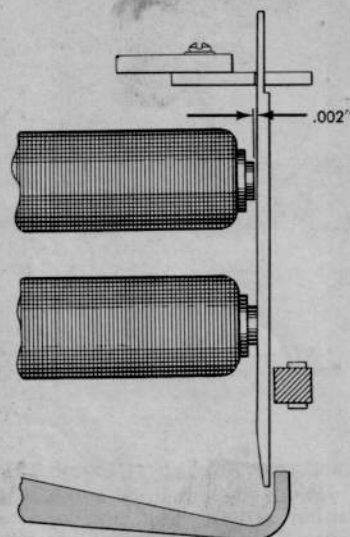

Figure 13. Armature-to-Core Clearance (Energized)
2. A .002" clearance should exist between the armature and the upper core when the armature is held against the lower core. (Figure 13).